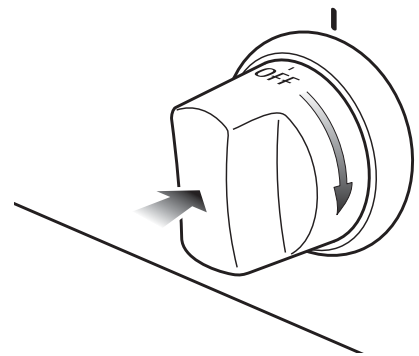

Fig. 3.5
2) Lightly press and turn the thermostat knob clockwise to the ★ **BROIL** position (fig. 3.5).